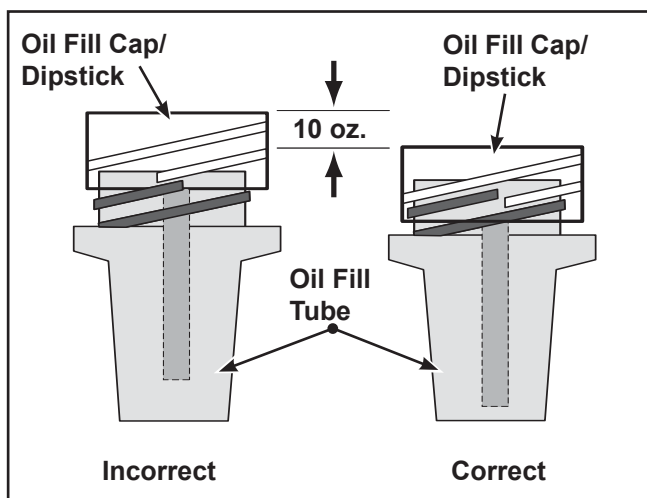

Figure 6-3. Oil Fill Cap and Oil Fill Tube Threads.
3. Unthread and remove the oil fill cap/dipstick; wipe off oil. Reinsert the dipstick into the oil fill tube and rest the oil fill cap/dipstick on the oil fill tube. Turn it counterclockwise until the oil fill cap drops down to the lowest point of the thread leads. **Do not** thread the oil fill cap onto the tube. See Figure 6-3.